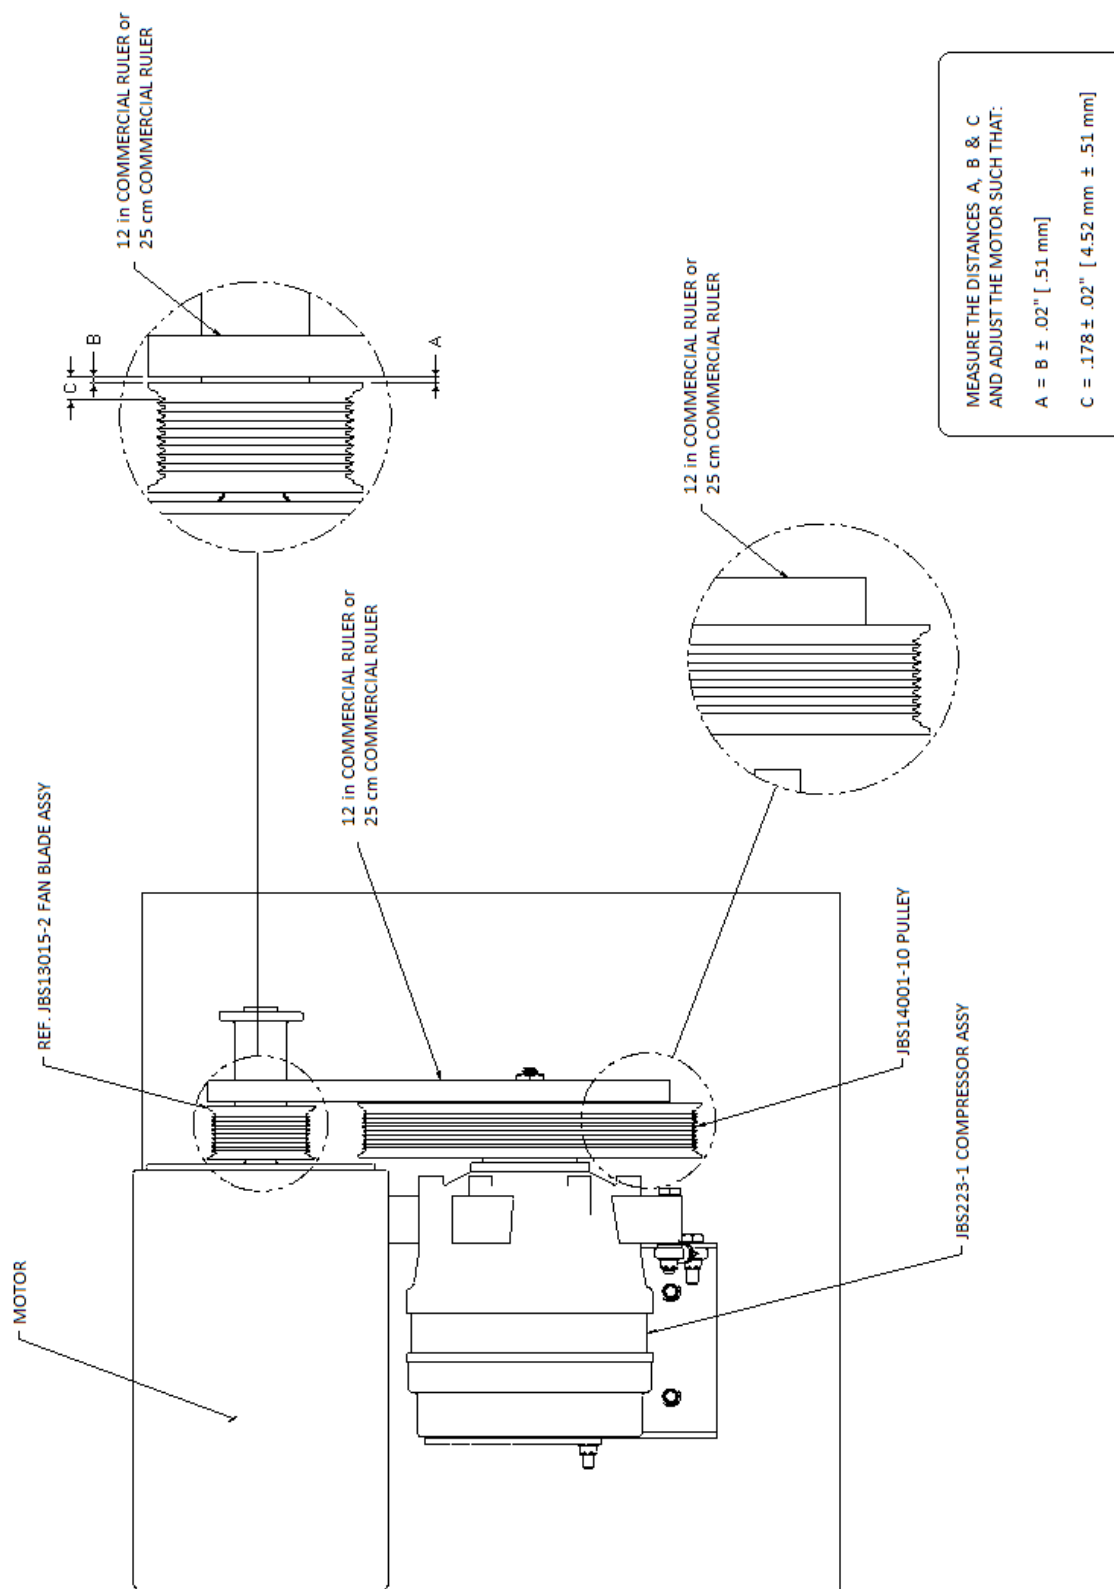

Figure 2.3.1.
2. Hold or clamp rigid 12" [25 cm] ruler to the face of JBS14001-10 as shown in Figure 2.3.1.
3. Referencing Figure 2.3.1; Measure dimension "C".
5. Referencing Figure 2.3.1; Measure dimension "A" & "B".